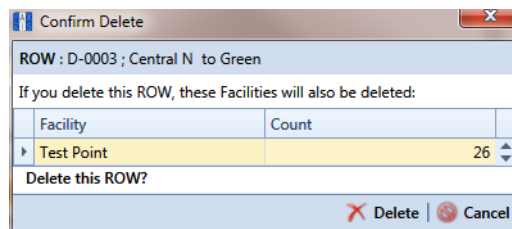

Figure 4-9. Confirm Delete
- 2 Click **Delete** to open the *Confirm Delete* dialog box (Figure 4-9, page 134). Or, right-click the selected pipeline in the hierarchy tree and select **Delete** in the shortcut menu to open the *Confirm Delete* dialog box.
NOTE: The *Confirm Delete* dialog box identifies the pipeline and number of associated facilities to be deleted in the *Count* column (Figure 4-9, page 134).